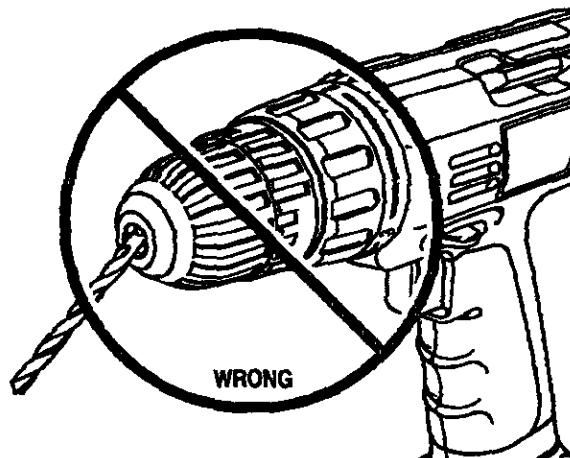

Fig. 10
**WARNING:** Do not insert drill bit into chuck jaws and tighten as shown in Figure 10. This could cause drill bit to be thrown from drill resulting in possible serious personal injury or damage to the chuck.